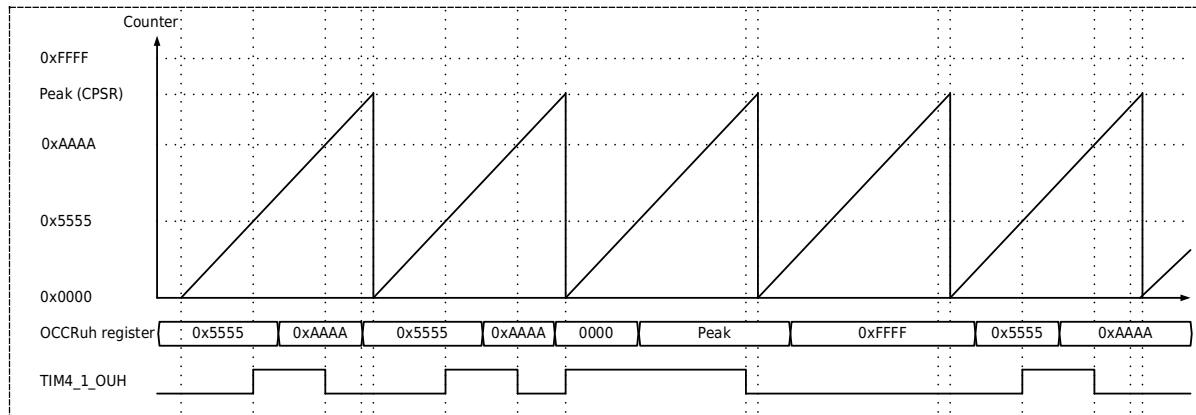

Figure 19-6 Waveform Output Example in Sawtooth Mode
- The following Figure 19-6 is an example of the waveform output of the comparison output module in sawtooth wave count mode.